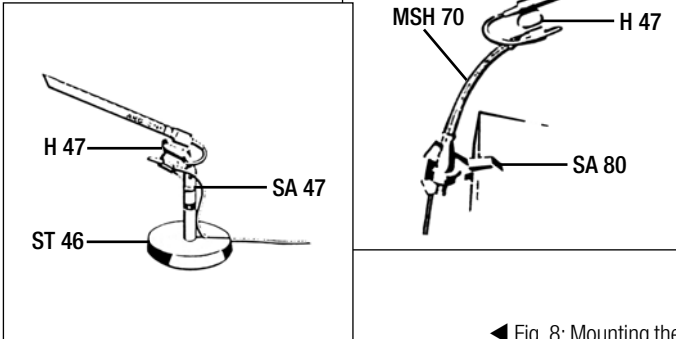

Fig. 7: Clamping the microphone on a desktop.
- Refer to fig. 7: Alternatively, you can clamp the microphone to the desktop using the SA 80.